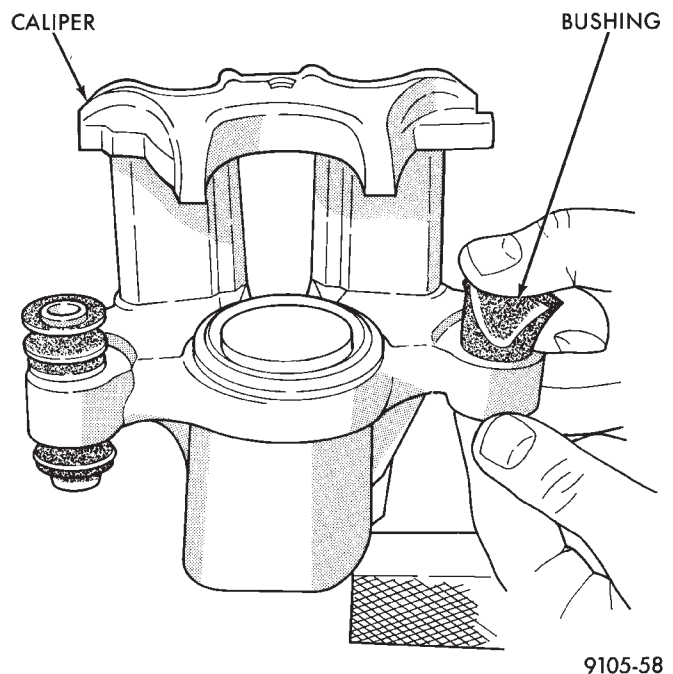

Fig. 4 Removing Bushings From Caliper
(2) Using your fingers collapse one side of the bushing. Then pull on the opposite side to remove the bushing from the caliper assembly (Fig. 4).